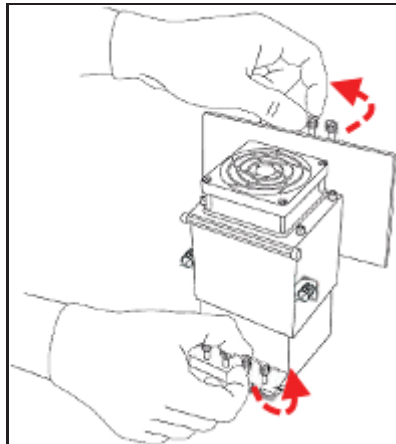

Figure 6-66: Releasing the locking screws
19. Tighten the upper and lower screws that secure the print head in the print block (see figure 6-66 on page 46).